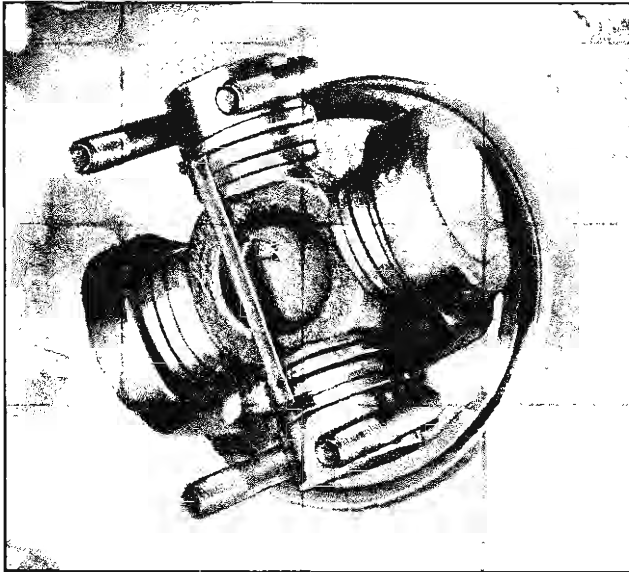

Fig. 4-7 Flange Separated from U-Bolts
5. Pull axle shaft outward sufficiently to separate flange from U-Bolts (Fig. 4-7).